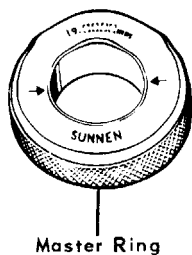

FIGURE 13
1. Remove the 19.0 mm Master Ring from the case and clean it thoroughly. Note the arrows and, particularly, the size marked on it. See Figure 13.